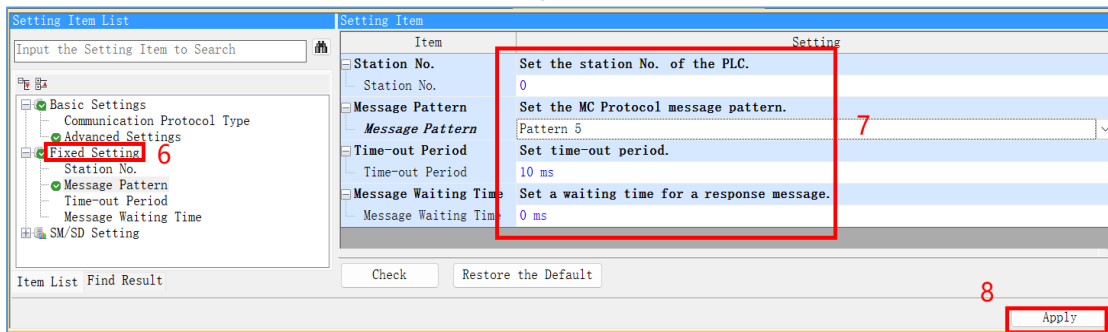

Figure 7
- (2) After the basic settings are completed, click on "Fixed Setting", see Figure 7 for details;
- (3) Click "Apply" after the configuration is complete, then click "Online" and select "Write to PLC..." to write to the PLC;